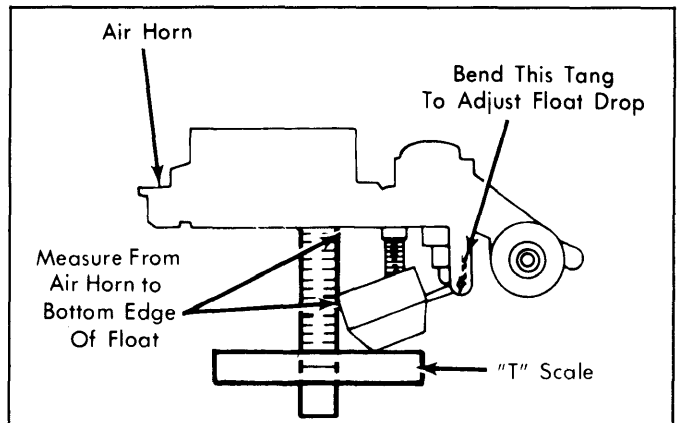

Fig. 2: Float Drop Adjustment
- 1) With air horn and gasket removed, turn right side up. Using a "T" scale, measure specified float drop from air horn gasket surface to bottom of float. See Fig. 2.